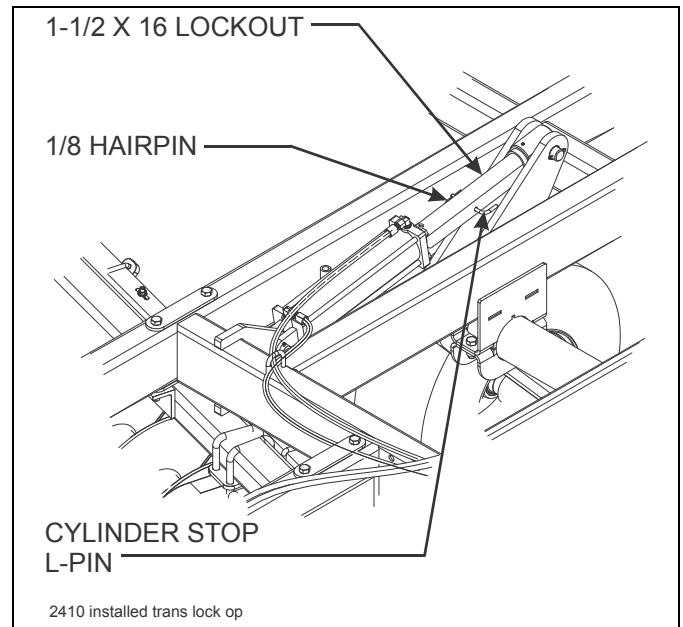
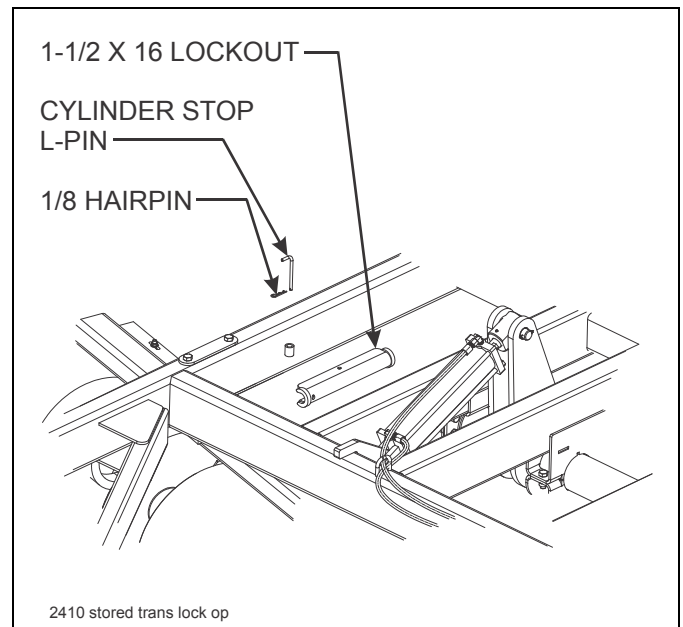

Figure 4-3: Installed Transport Locks
Figure 4-4: Stored Transport Locks
2. The hydraulic system is not filled with oil and should be purged of air before transporting and field operations. Carefully hitch the Weatherproofer I to the tractor and connect the hydraulic lift hoses. Check to make sure the tractor hydraulic reservoir is full of the manufacturer's recommended oil. Slowly raise the machine. With all cylinders fully extended remove the 1-1/2 X 16 transport lockouts (See Figure 4-3.) Store transport lockouts as shown in Figure 4-4. Lower and raise the unit to verify that cylinders are working simultaneously throughout the stroke. Do not loosen any hoses or fittings. Recheck tractor reservoir to make sure it is within operating limits.